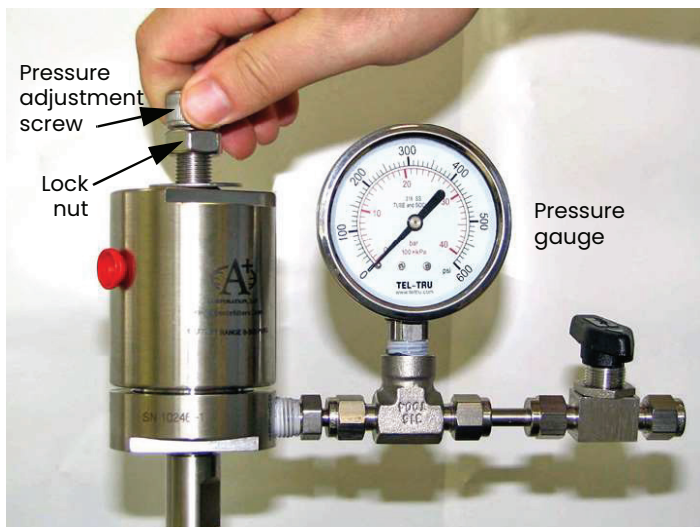

Figure 23: Turning the pressure adjustment screw
2. Turn the pressure adjustment screw clockwise to increase the pressure (see *Figure 23* below). The optional pipeline insertion membrane liquid separator/pressure regulator is the *first stage* pressure reduction of the system when used. Depending upon your source pressure, you should step down the pressure to a value in the range listed in *Table 2* below.